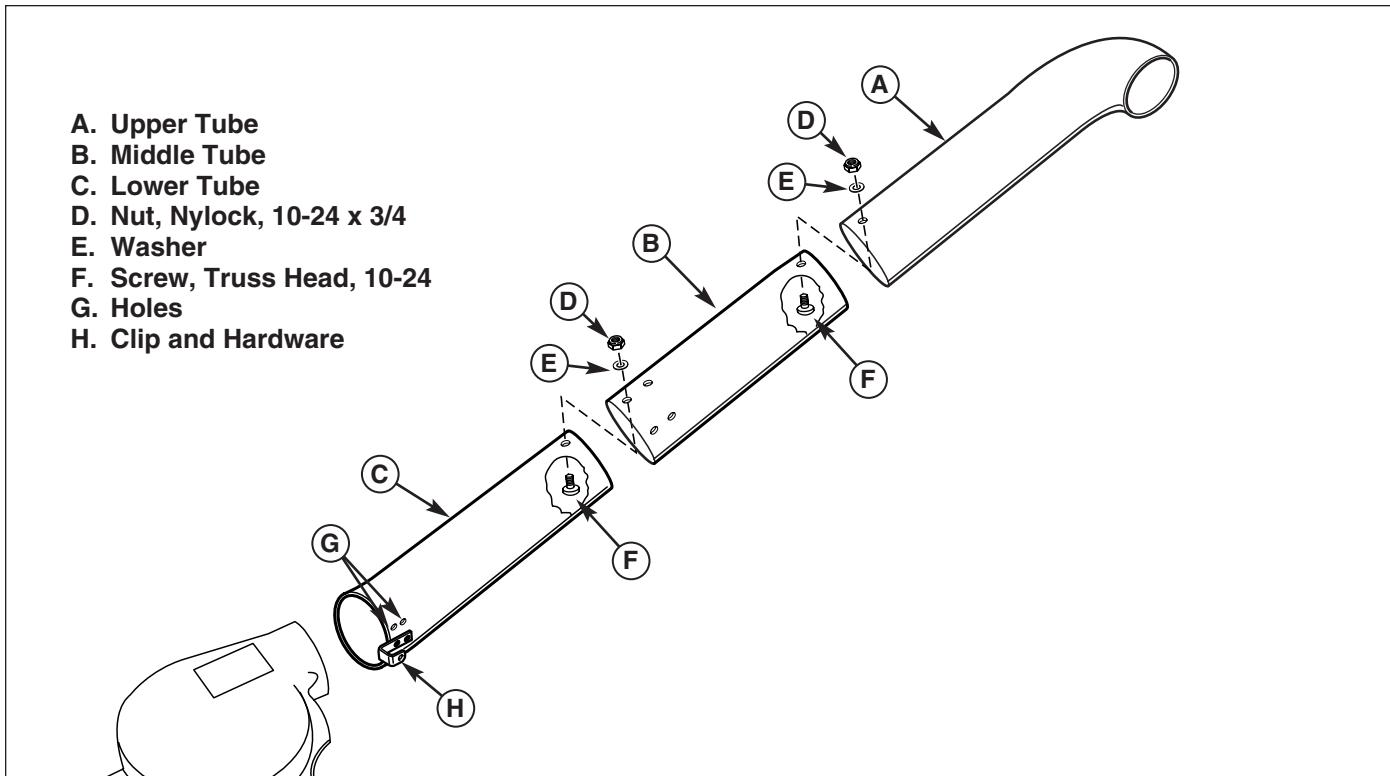

Figure 4. Assemble Tubes & Deflector
1. Insert the lower tube (C, Figure 4) into middle tube (B). Secure the tubes as shown in Figure 4 using #10-24 x 3/4 screws, washer (E) and #10-24 nuts (D). Insert middle tube (B) into upper tube (A). Secure the tubes as shown in Figure 4 using #10-24 x 3/4 screws, washer (E) and #10-24 nuts (D).
2. Place upper tube into catcher opening. Secure the elbow to the turbo using clip (H).
*Note: Relocation of clip and hardware (H) to holes (G) may be necessary to ensure proper fit. Use correct hole locations to maintain proper tube connections and prevent lower tube from disconnecting from the turbo.*